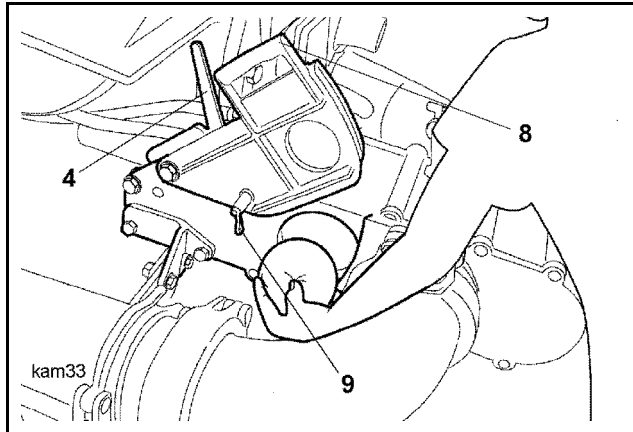

Fig. 462
- Push a damp, hard cleaning ball into the chamber (**Fig. 462**).
- Release the toggle (9) (**Fig. 462**) again so that the flap (8) can be closed.
- Close the flap (8).